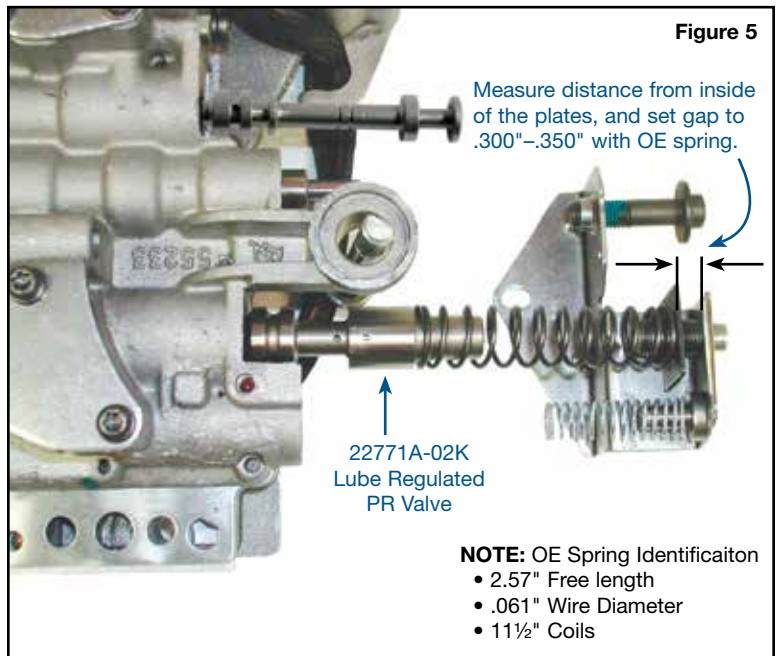

Figure 5
- Adjust pressure regulator adjusting screw so that there is a .300"–.350" gap between the inside of the plates (**Figure 5**).